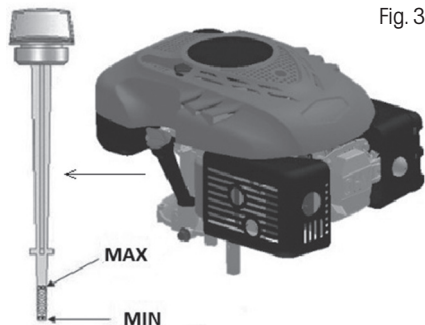

Fig. 3
2. Pull the cap with the oil dipstick out of the oil refill hole (Fig. 3).
4. The oil level must be between the upper (MAX) and lower (MIN) limit (Fig. 3).